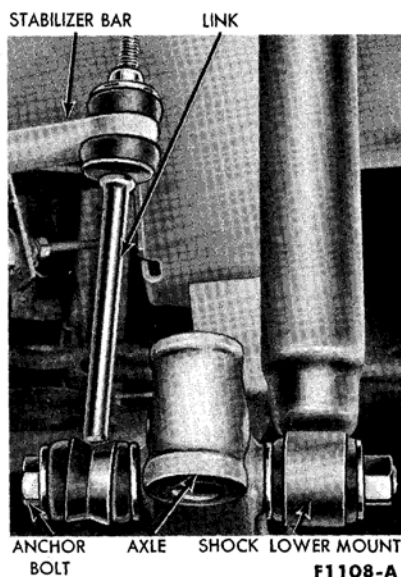

FIG. 1—Shock Absorber and Stabilizer Link Lower Connections
2. Remove the shock absorber lower attaching nut and washer (Fig. 1)
3. Remove the nut and washer from the anchor bolt that attaches the lower end of the shock absorber and stabilizer bar link to the axle. Tap the anchor bolt out of the shock absorber, axle, and link (Fig. 1).
7. At each end of the axle, remove the nut and washer from the anchor bolt that attaches the lower end of the shock absorber and stabilizer link to the axle. Tap the anchor bolt out of the shock absorber, axle, and link (Fig. 1).